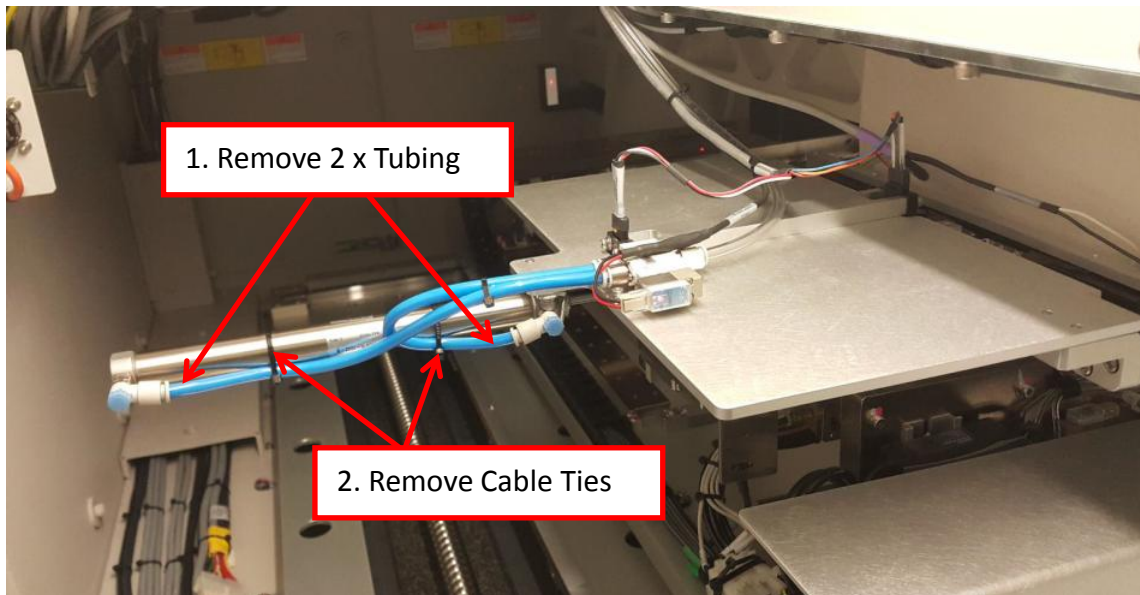

Figure 1 Inner Barrier Cylinder Tubing
2. Remove 2 x Tubing as shown in Figure 1